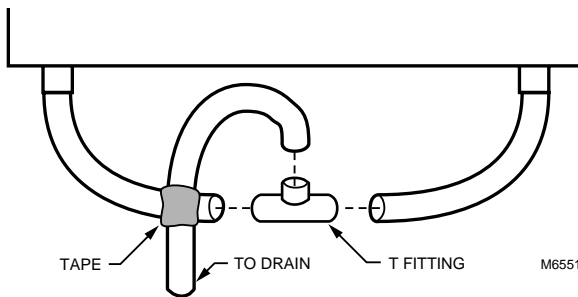

Fig. 10. Installing P-trap.
- Connect the drain line to the center leg and tape it in place to prevent any kinks. See Fig. 10.